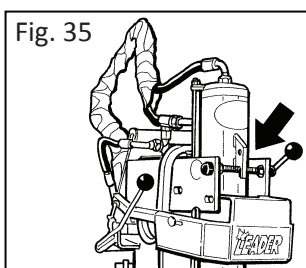

Fig. 35
4. Lower all the hydraulic cylinder until it touches the front clamp. (Fig. 35)